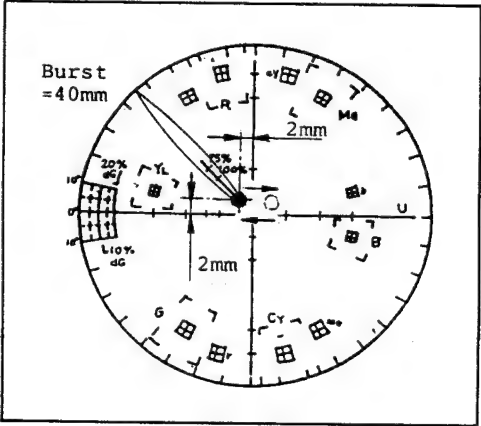

Fig. II-52
- 3) Turn VR2603 reversely to above direction until bright dot comes to the position in Fig. II-52.